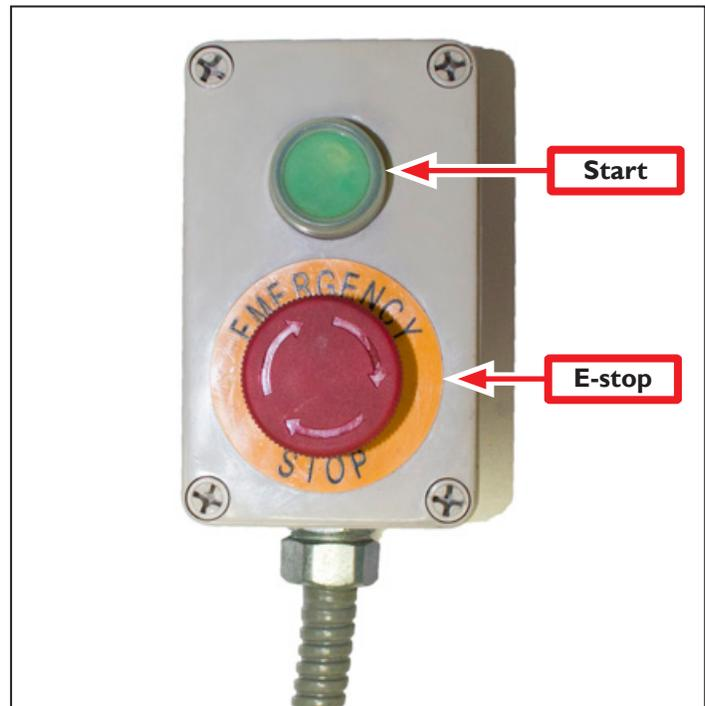
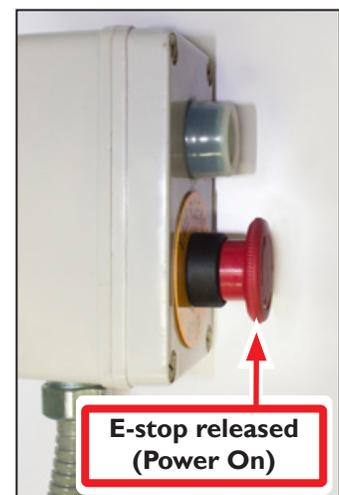
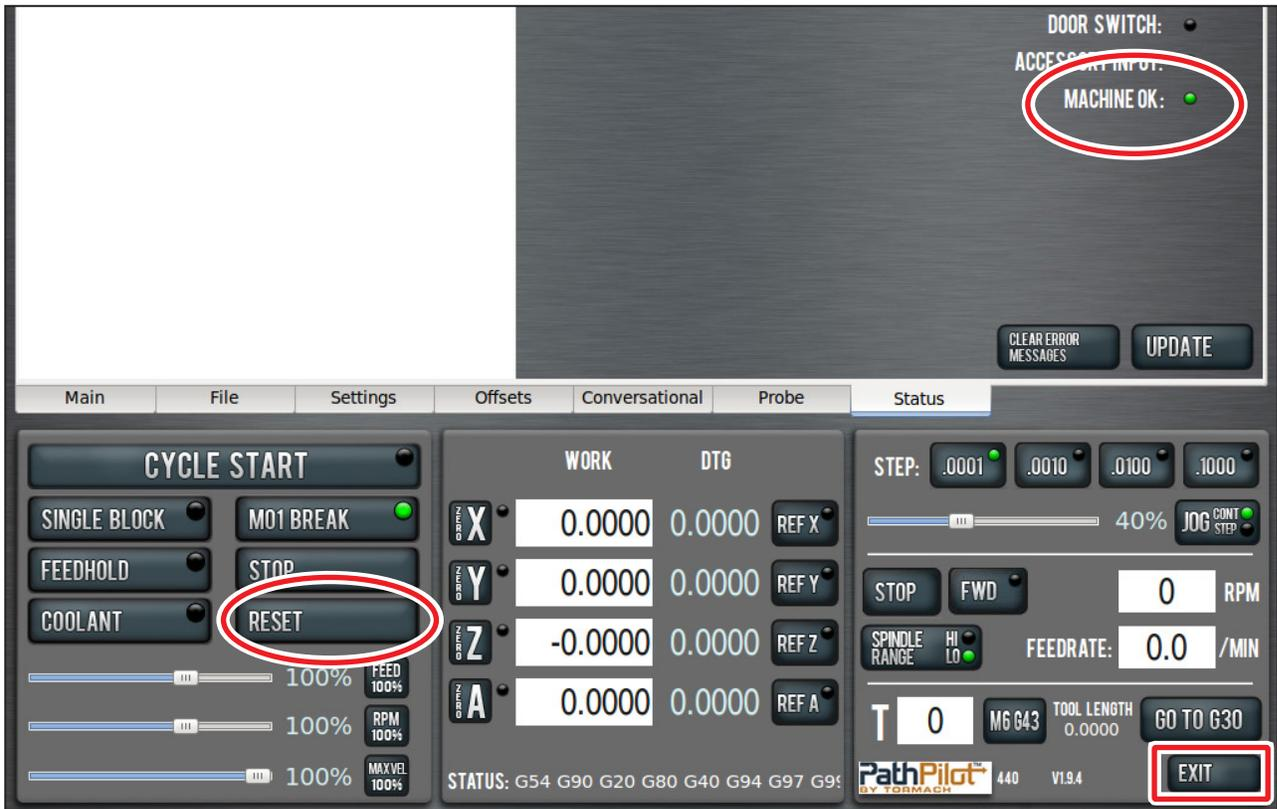

Figure 3.11
Figure 3.13
Figure 3.15
The mill has one emergency stop button or E-stop pre-installed on the Operator Box (see **Figure 3.11**). The E-stop terminates all motion and spindle function. Depress the red E-stop and it locks in the Power Off position (see **Figure 3.13**). Turn the red E-stop clockwise a quarter-turn to release it; press the green Start button to power back on (see **Figure 3.11**).
The mill's green Start button, located on the Operator Box (see **Figure 3.11**), powers on circuits for the axis drives. The PathPilot interface indicates the mill is powered on and ready to operate when the *Machine OK* LED is illuminated (see **Figure 3.15**).
Click the blinking *Reset* button on the PathPilot interface to establish communications between the controller and the mill (see **Figure 3.15**).
**IMPORTANT!** Do not power on motors and drives via the green Start button before powering on the controller that oversees their operation. Make sure that the controller is on and the PathPilot interface is loaded before powering on the mill. Likewise, make sure to depress the red E-stop before powering off the controller using the Exit button on the PathPilot interface (see **Figure 3.15**). Confirm mill powers off and on correctly per the Power Off/On Procedure below.
Power on the PathPilot controller by switching the power strip on (not included); PathPilot controller will boot. Turn the Main Disconnect switch to *On* (see **Figure 3.15**).